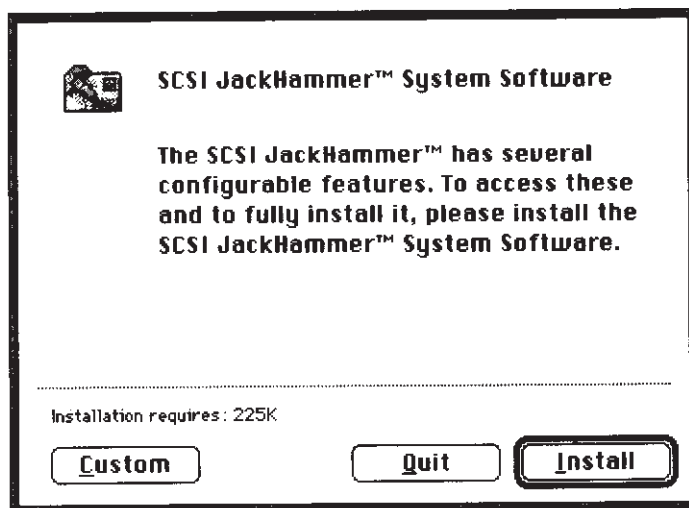

Figure 6: Standard installation window.
5. You will have the option of choosing Standard installation, Custom installation, or quitting the Installer. We recommend choosing the Standard installation as it will install all the files necessary to use your JackHammer (see Figure 6).